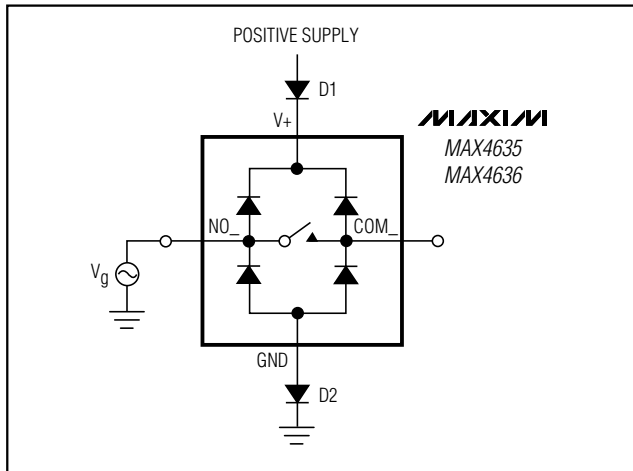

Figure 5. Overvoltage Protection Using Two External Blocking Diodes
**Caution:** Do not exceed the absolute maximum ratings because stresses beyond the listed ratings can cause permanent damage to the device. Proper power-supply sequencing is recommended for all CMOS devices. Always apply  $V_+$  before applying analog signals, especially if the analog signal is not current limited. If this sequencing is not possible, and if the analog inputs are not current limited to less than 30mA, add a small-signal diode (D1) as shown in Figure 5. If the analog signal can dip below GND, add D2. Adding protection diodes reduces the analog range to a diode drop (about 0.7V) below  $V_+$  (for D1), and a diode drop above ground (for D2).
On-resistance increases slightly at low supply voltages. Maximum supply voltage ( $V_+$ ) must not exceed +6V. Adding protection diode D2 causes the logic threshold to be shifted relative to GND. Protection diodes D1 and D2 also protect against some overvoltage situations. With Figure 5's circuit, if the supply voltage is below the absolute maximum rating, and if a fault voltage up to the absolute maximum rating is applied to an analog signal pin, no damage results.